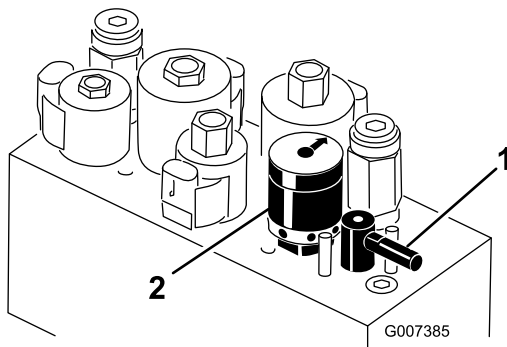

Figure 59
5. Rotate the backlap lever to the "R" position (Figure 59).
6. Rotate the reel speed control to setting 1 (Figure 59).